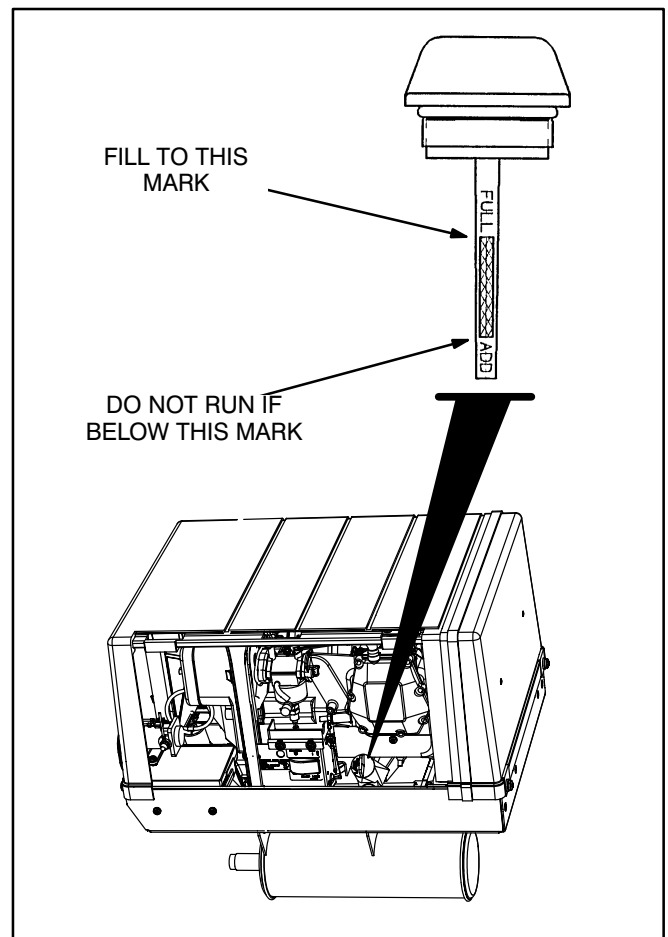

FIGURE 3-1. CHECKING ENGINE OIL LEVEL
Check engine oil level (Figure 3-1).
1. Unscrew the oil fill cap and wipe oil off the dipstick (Figure 3-1). Screw the cap back on, remove it again and check the oil level on the dipstick.
1. Run the engine until warm, stop it and remove the oil fill cap (Figure 3-1).